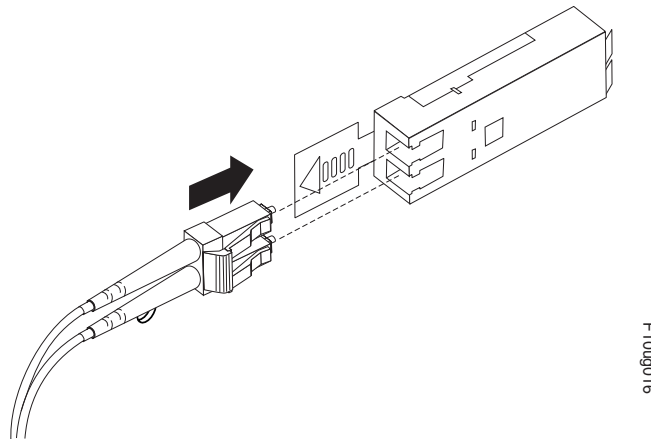

Figure 42. Inserting an LC-LC fibre-channel cable into an SFP module
4. Carefully insert this end of the LC-LC cable into an SFP module that is installed in the DS4100. The cable connector is keyed to ensure it is inserted into the SFP module correctly. Holding the connector, push in the cable until it clicks into place, as shown in Figure 42.